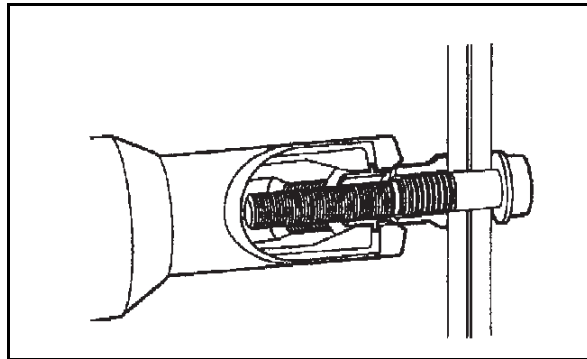

Figure 2.9 Place Installation Tool Over Fastener Pintail 01_0020
3. Place the Huck installation tool over the HP 8 fastener pintail (See Figure 2.9)